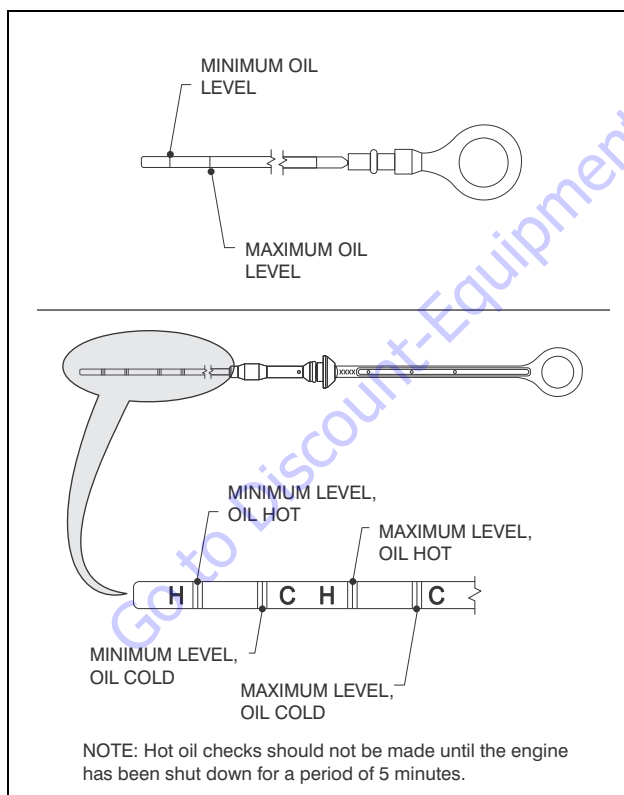

Figure 3-86. Deutz Engine Dipstick
5. Insert the dipstick to the stop and remove again. Check the oil level, and if necessary, top the oil level up to the MAX mark with an approved grade and type of oil as outlined in the engine manufacturer's operator's manual. Refer to Figure 3-86., Deutz Engine Dipstick.